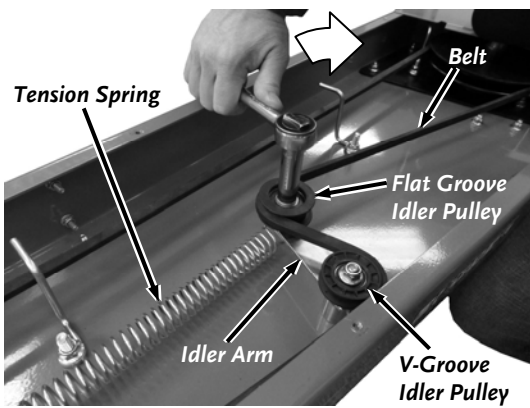

Figure 38
5. Position the 9/16" Deep Socket and Ratchet onto the Bolt of the Flat Groove Idler Pulley. The Ratchet Handle and Idler Arm must be aligned for the pivoting of the Arm to work properly (**Figure 38**).